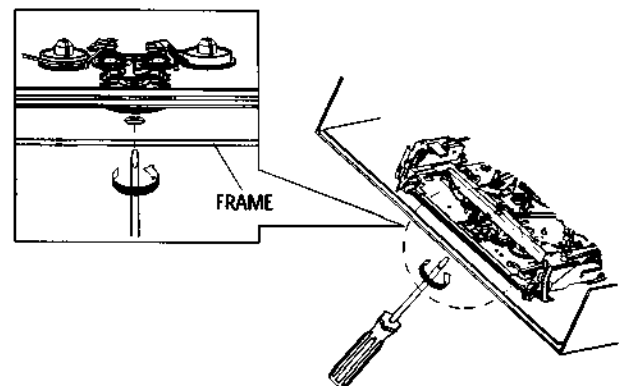

Fig. 1-34
- 2) When Slider S.T are approached in the position of unloading, rotate holder Clutch counterclockwise after inserting screw driver in the hole of frame's bottom in order to wind the unwinded tape. (Refer to Fig.1-34)